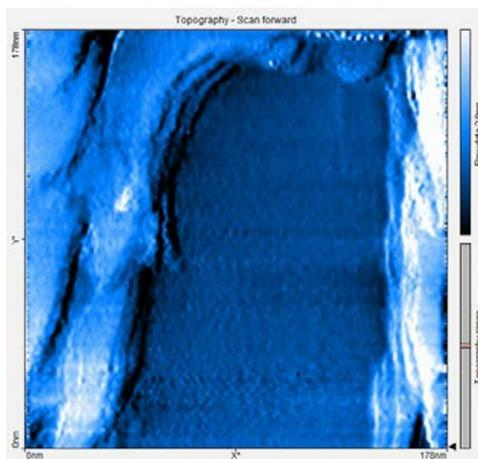

Fig. 15.4-8 Surface of TaS2
4. You should see terrace like structures (comp. fig. 15.4-8), if not try using the “cleaning pulse” button or withdraw the sample and re-approach a different spot on the sample